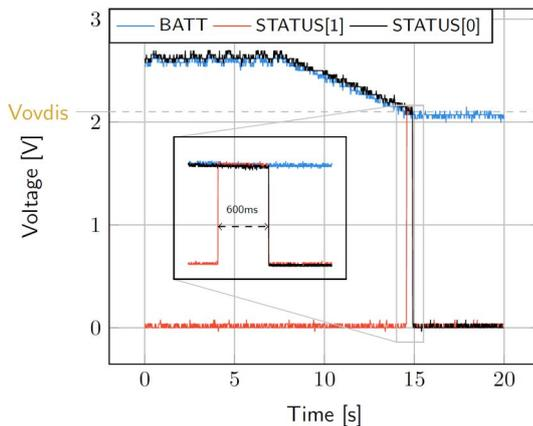

Figure 5: LDOs disabled around 600 ms after **BATT** reaches V_{OVDIS}
- BATT: Voltage decreases as the system consumes the power accumulated in the storage element. The voltage remains stable after crossing V_{OVDIS} (see Figure 5).
- **STATUS[0]**: De-asserted when the LDOs are no longer available as the storage element is running out of energy. This happens 600 ms after **STATUS[1]** assertion (see Figure 5).
- **STATUS[1]**: Asserted for 600ms when the storage element voltage (**BATT**) falls below V_{OVDIS} (see Figure 5).